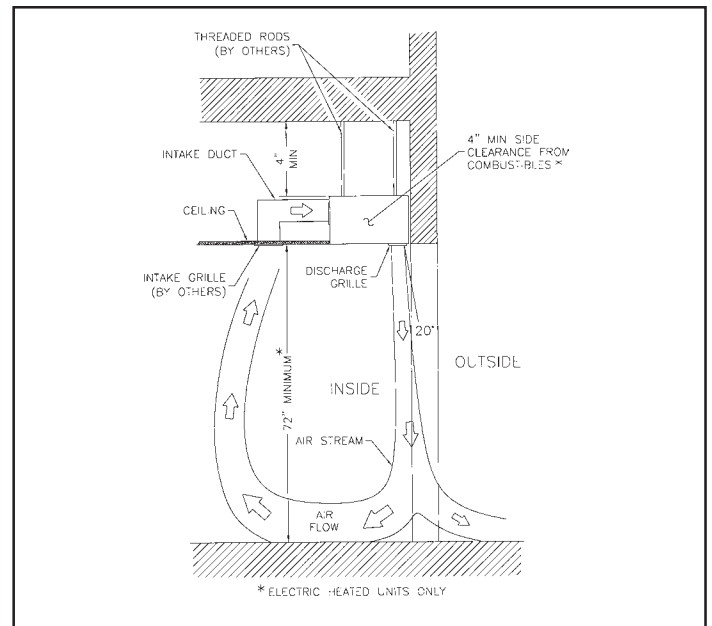

FIGURE 5 - In-Ceiling Suspension Mount Without Adapter
C. ABOVE CEILING: Figure 5
Follow instructions 1 & 2 under Item A. See Figure 5. The bottom of the unit can be exposed for easy servicing.